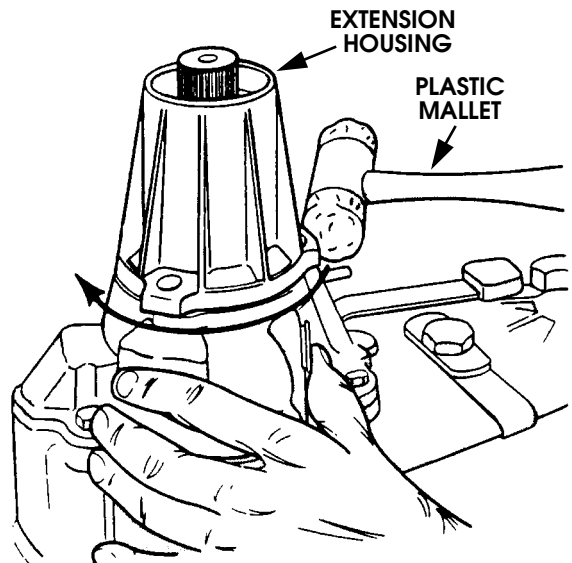

Figure 5-85: Loosening Extension Housing
3. Remove extension housing bolts. Then tap housing in counterclockwise direction to break sealer bead (Figure 5-85). Use plastic mallet to tap housing.